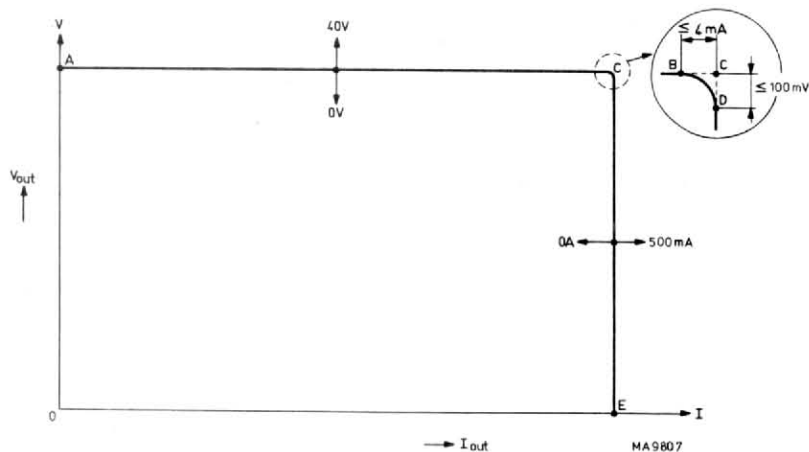

Fig. 1. Current voltage characteristic.
2. Load regulation	For load variations from point D to E and vice versa (see Fig. 1.). Load effect + settling effect ≤ 4 mA.
Cross-over point	See point B-C-D in Fig. 1. This value applies for any set output voltage between 0 and 40 V, and output current between 0 and 500 mA.